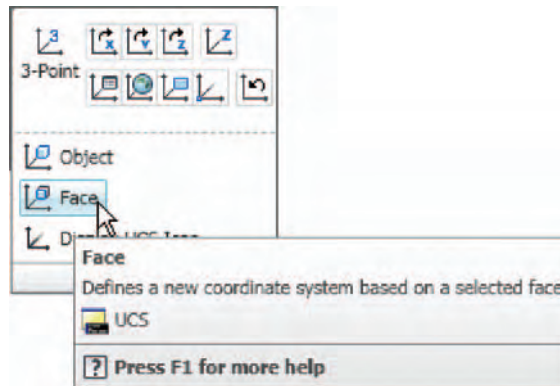

Fig. 17.23 The **Face** icon from the **View/UCS** toolbar
4. Click the **Face** tool icon in the **View/UCS** toolbar (Fig. 17.23) and place the 3D model in the **UCS** plane shown in Fig. 17.24, selecting the sloping face of the extrusion for the plane and again **Zoom to 1**.